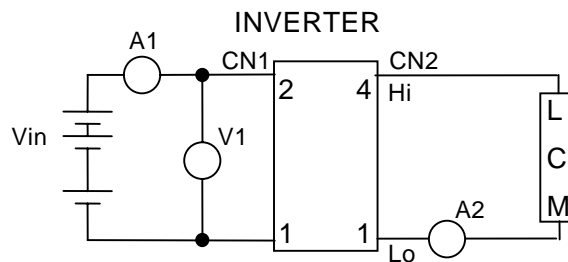

Fig.1 Wiring
- (1) The electrical characteristics are measured as we show on measurement diagram Fig.1.  $V_{in}=12.0V$ .
- (2) As we show on measurement diagram Fig.1, the test equipment shall be V1:DC Volt meter (Class0.5) A1:DC Current meter(Class0.5) A2:AC Current meter type2016(Y.E.W) or FLUKE45(FLUKE)  $V_{in}$ : DMS35-2.3(Metronix).
- (3) The line length of between the lamp and CN2(high voltage)is less than 150mm.